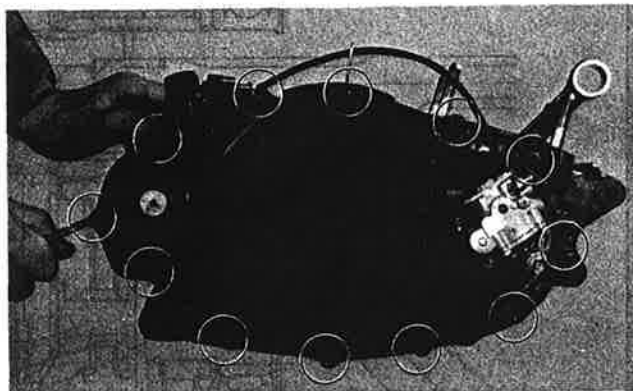

Fig. 3-2-8
Remove crankcase cover (right) holding bolts (12) and the cover. (Fig. 3-2-8)